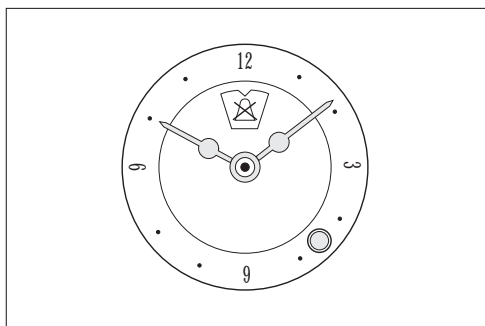

Fig. 7
**PCI "Campanil" TR 259 Analogic (fig. 7)****Setting the clock**